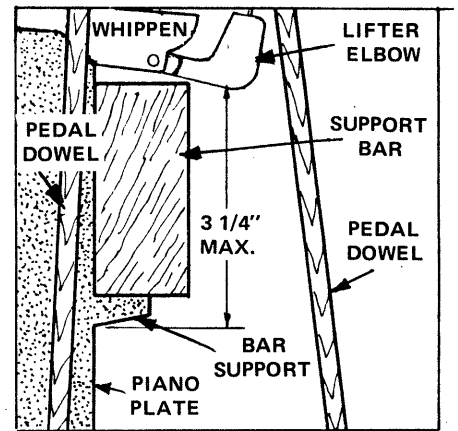
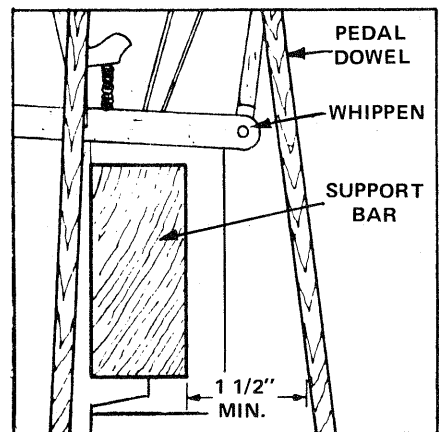

FIGURE 1-23 Measure from the Bottom of the Elbows to the bottom of the support as shown above.
FIGURE 1-27 Measure for a clearance of  $1-1/2$ " as shown above.
Measure from the BOTTOM of the Lifter Elbows centered over the Piano Plate Bar Supports to the BOTTOM of the Bar Supports as shown in FIGURE 1-23. These measurements MUST NOT exceed 3-1/4" or the system CANNOT be installed in the piano.
The Actions on some makes of pianos differ from that shown in FIGURE 1-23 in that the Whippens themselves extend over the Support Bar (see FIGURE 1-27). On these, the measurement is taken from the BOTTOM of the Whippen.
1. See if there is  $1-1/2$ " minimum between the FRONT of the Support Bar and the Dowel (see FIGURE 1-27) or if the Dowel can be repositioned to obtain the  $1-1/2$ " clearance. If this condition is met, mark the end of the measurement on the Support Bar and label the mark "SR" then proceed to STEP 1-25.